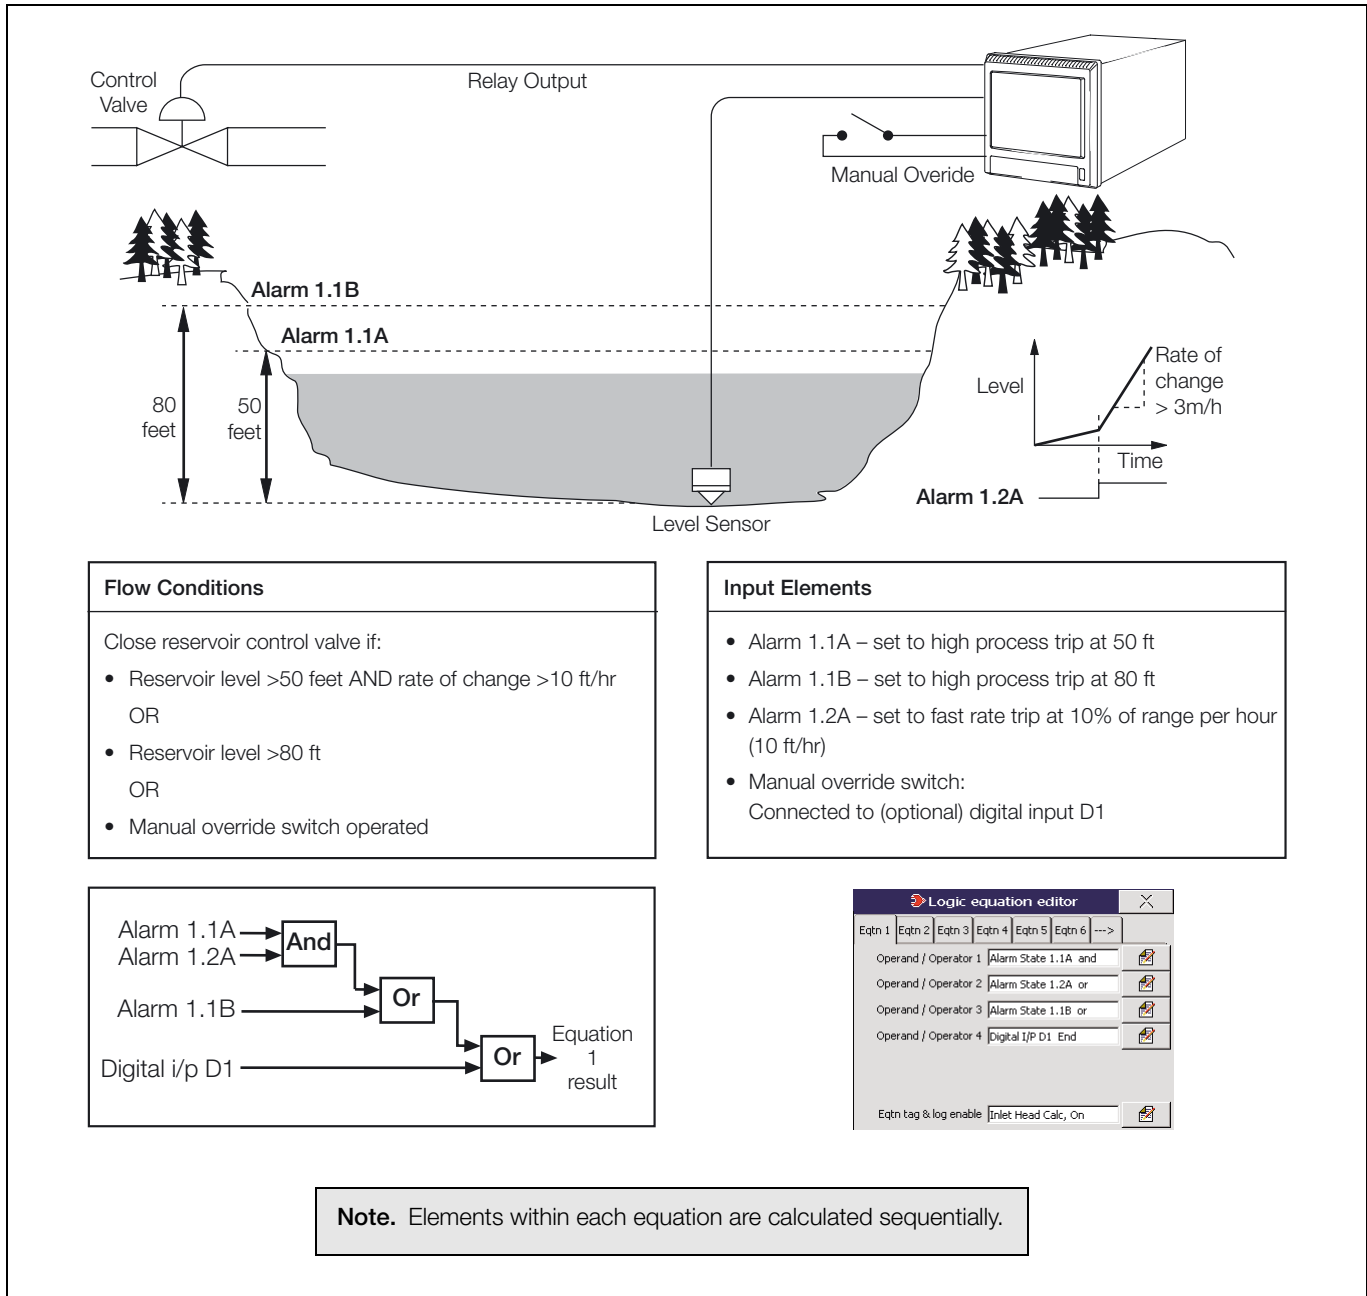

Fig. 3.1 Logic Equation Example
3.2 Worked Example – Reservoir Level Control – Fig. 3.1